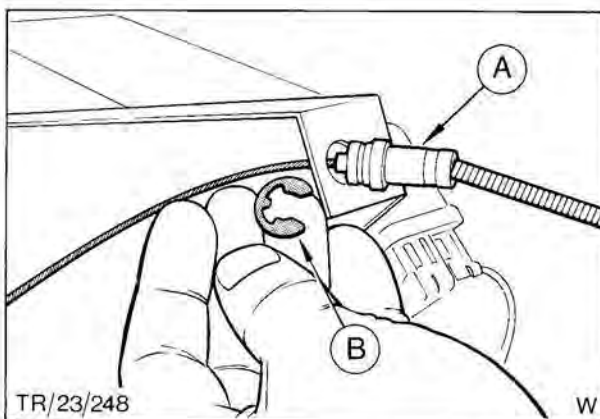

Fig. 88. Stop control cable removal
4. Disconnect outer cable from motor bracket by prising out circlip, Fig. 88.
8. Reconnect outer cable to stop motor bracket and refit retaining circlip, Fig. 88.